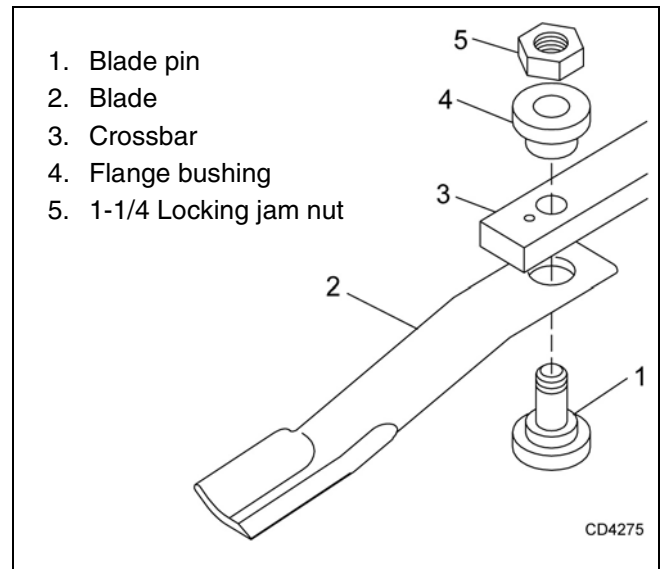

Figure 17. Blade Removal
2. Remove blades as shown in Figure 17.